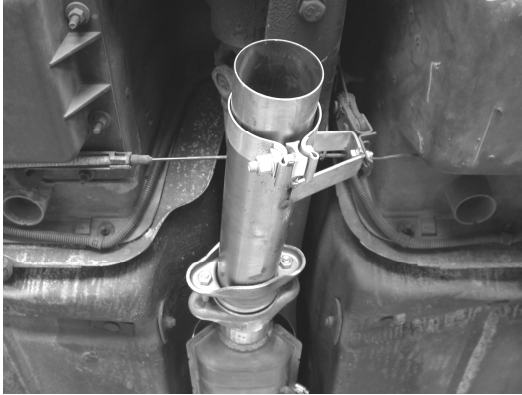

Figure 1
1. Using the hardware supplied, place the front pipe/flange assembly in position as shown in figure 1. Attach bracket located on front pipe/flange assembly to the rubber hanger also using the hardware supplied.